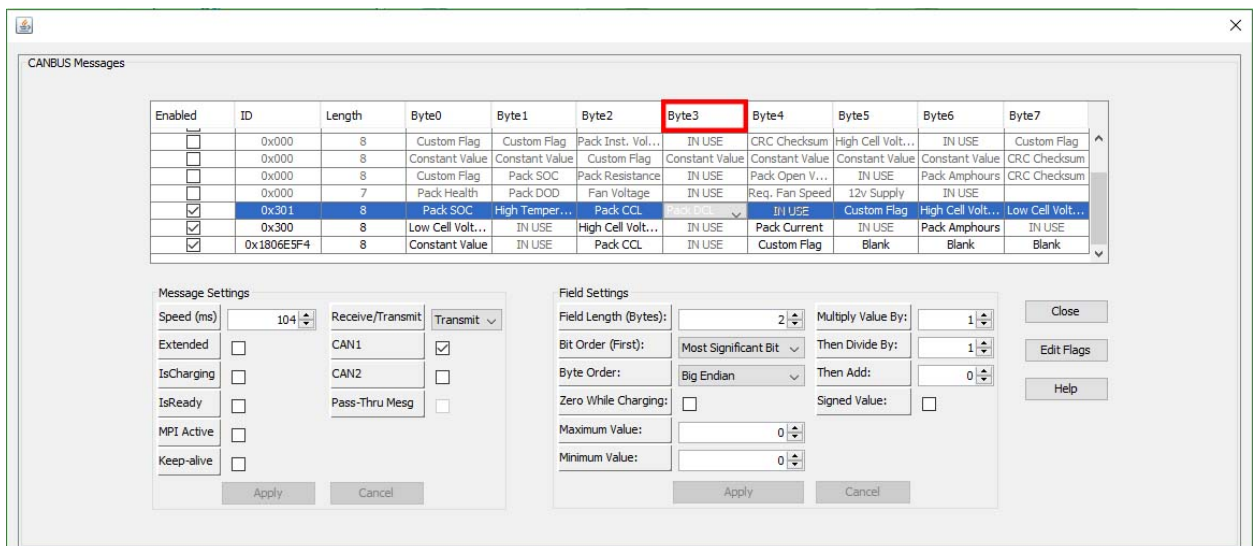
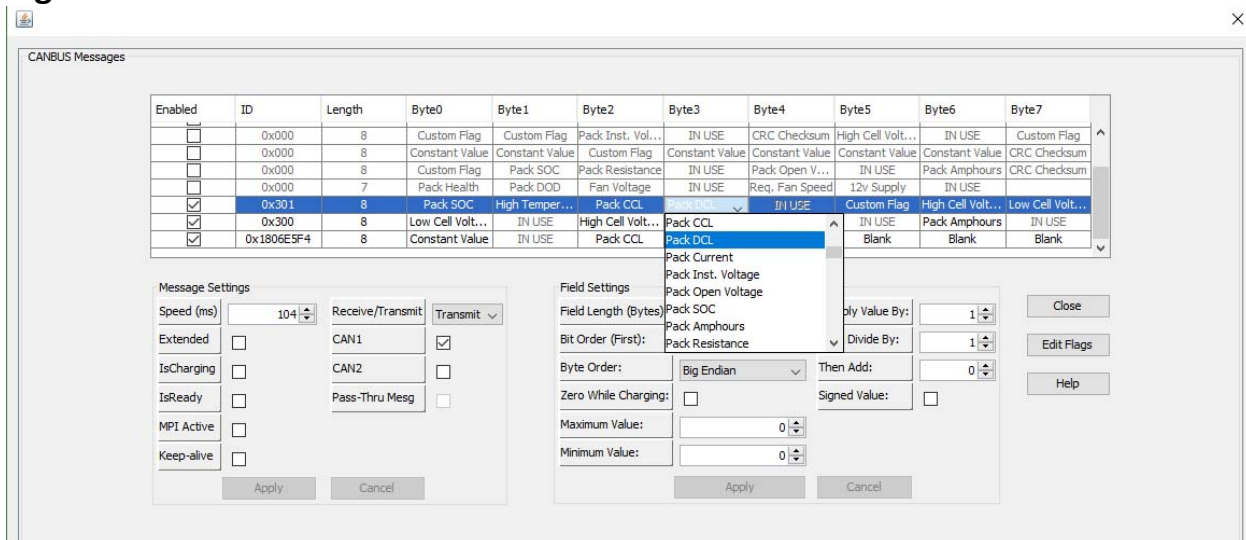

Fig. 27
Fig. 28
11.The following is the settings for **PACK DCL**. The Byte used is Byte3 and Byte4 in message 0x301. In the dropdown menu for Byte3 make sure that **PACK DCL** is selected. (Fig. 27 Fig. 28)